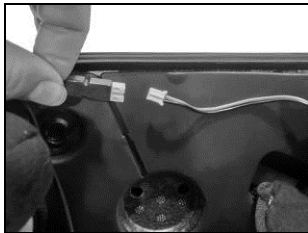

Fig. 19
- Connect the battery to the wiring system (Fig. 19).